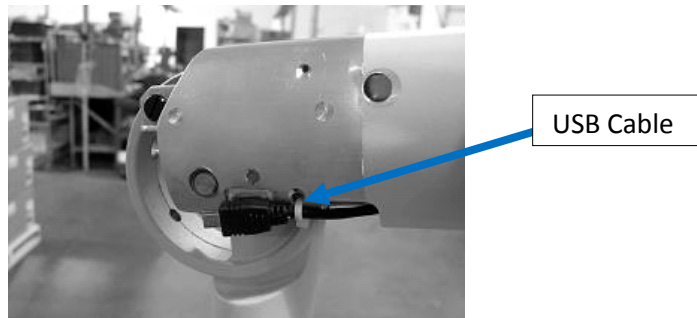

Figure 46: Location of the Cable Tie that holds the USB cable
3. Locate the USB cable on the tube head end of the Articulating Arm – see Figure 46.